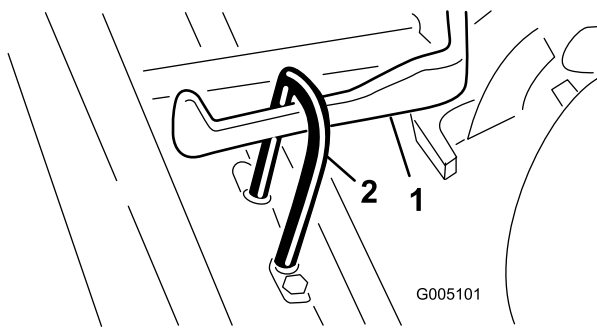

Figure 8
3. Slide the cutting unit under the pull frame while hooking the lift hook onto the lift arm (Figure 8).